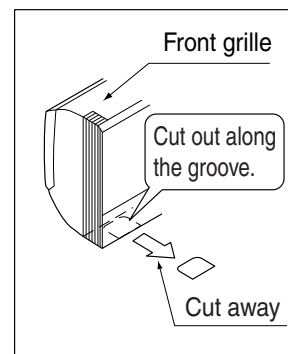

Fig. 4
- Check the location for the hole using the included paper pattern for installation (3).
- Temporarily attach the installation panel (1) at the temporary-securing position on the paper pattern for installation (3) and use a level to make sure the drain hose is either level or tilted slightly downward.
- Secure the installation panel (1) to the wall using either screws or bolts.
- If using the attachment screws for the installation panel (2), attach using at least 4 screws on either side (for a total of 9 screws) of the recommended installation cleat position on the included paper pattern for installation (3).
(3) If using the left, bottom-left, or bottom-right positions for the piping, cut out the through-hole for the piping in the front grille. (Refer to Fig. 4)